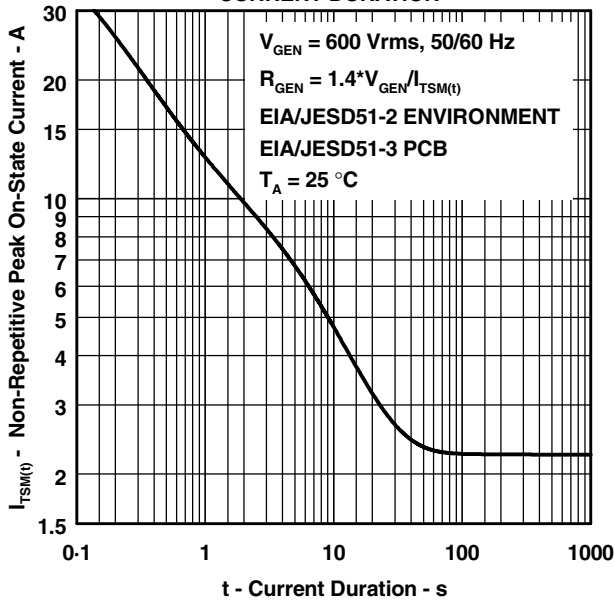

Figure 8.
5. EIA/JESD51-2 environment and EIA/JESD51-3 PCB with standard footprint dimensions connected with 5 A rated printed wiring track widths. See Figure 8 for the current ratings at other durations. Derate current values at -0.61 %/°C for ambient temperatures above 25 °C.
The protector can withstand currents applied for times not exceeding those shown in Figure 8. Currents that exceed these times must be terminated or reduced to avoid protector failure. Fuses, PTC (Positive Temperature Coefficient) resistors and fusible resistors are overcurrent protection devices which can be used to reduce the current flow. Protective fuses may range from a few hundred milliamperes to one ampere. In some cases, it may be necessary to add some extra series resistance to prevent the fuse opening during impulse testing. The current versus time characteristic of the overcurrent protector must be below the line shown in Figure 8. In some cases, there may be a further time limit imposed by the test standard (e.g. UL 1459 wiring simulator failure).